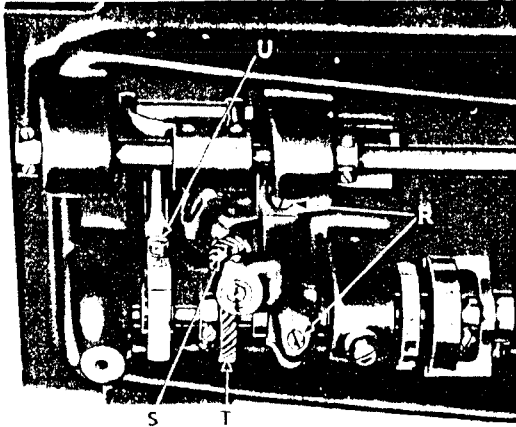

Fig. 20. Adjustment of Hook Saddle
Loosen the two screws in the hub of the hook driving gear (T, Fig. 20) and tap this gear to the right or left on the hook driving shaft until the point of the hook is at the center of the needle. Tapping to the right gives an earlier hook timing, and to the left a later hook timing. Securely tighten the two set screws in the gear (T).
Turn the machine pulley over toward you until the point of the sewing hook is at the center of the needle. Loosen the two screws (R, Fig. 20) holding the hook saddle underneath the bed of the machine and move the hook saddle to the right or left, as may be required, until the point of the hook is as close to the needle as possible without striking it, then securely tighten the two screws (R).
Remove the throat plate, feed dog and the bobbin case opener. Loosen the two screws in the hook shaft gear (S, Fig. 20) and lift out the sewing hook.
Remove the throat plate; clean the lint and dust from between the feed points and replace the throat plate; tip the machine back and turn the machine pulley towards you until the feed dog is at its highest position; loosen screw (U, Fig. 20) in the feed lifting cam fork on the feed bar and raise or lower the feed dog, as may be required, and retighten the screw (U).